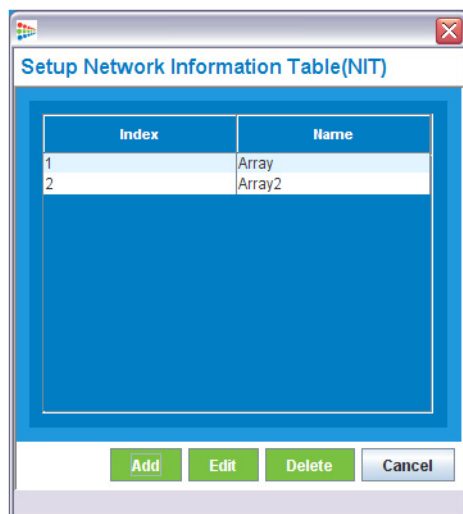

Figure 302. Array2 Added
The configuration file is named as Array2. (Figure 302).
1. In Figure 302, choose View NIT in XML Format. A window similar to Figure 303 appears.
1. To delete an array, highlight the array to be deleted in Figure 302.